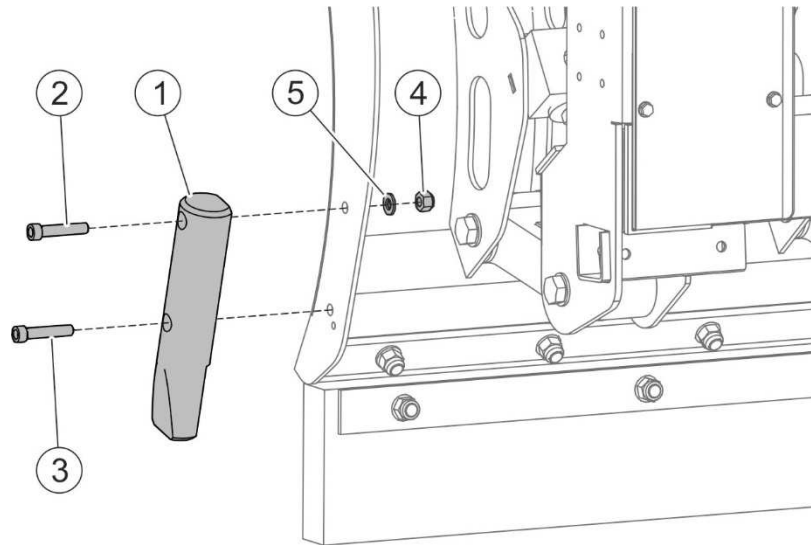

FIGURE 5.5 Installation of fenders
(1) - fender; (2) - bolt; (3) - bolt; (4) - nut; (5) - washer
The snowplough is equipped with the right fender and the left fender, which are used for protecting the snowplough blades' sides while working near kerbs. Fenders (FIGURE 5.5) are attached to the mouldboard by means of two bolts (2) and (3). Bolt (2) is secured with nut (4) and washer (5). Installed bolt (3) is secured using a threadlocker. The right fender and the left fender are replaced in the same way.